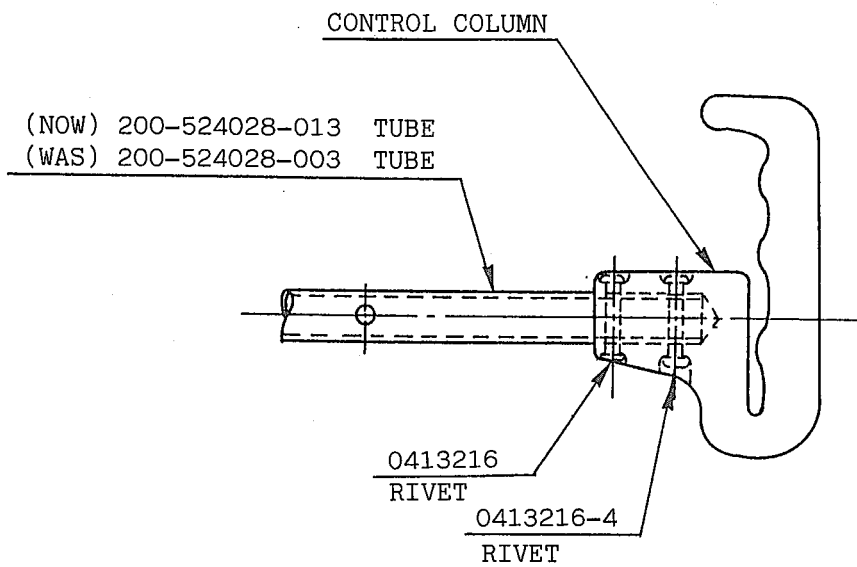

FIGURE 1
- (1) Remove control column assembly in accordance with Service Manual, Paragraph 8-2-7.
- (2) See Figure 1. Remove rivents P/N 0413216 and 0413216-4, and disconnect tube P/N 200-524028-003 from control column.